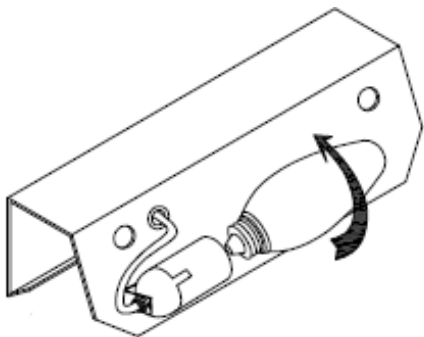

Fig. 2
- Insert a suitable lamp to lamp holder (see Fig. 2)